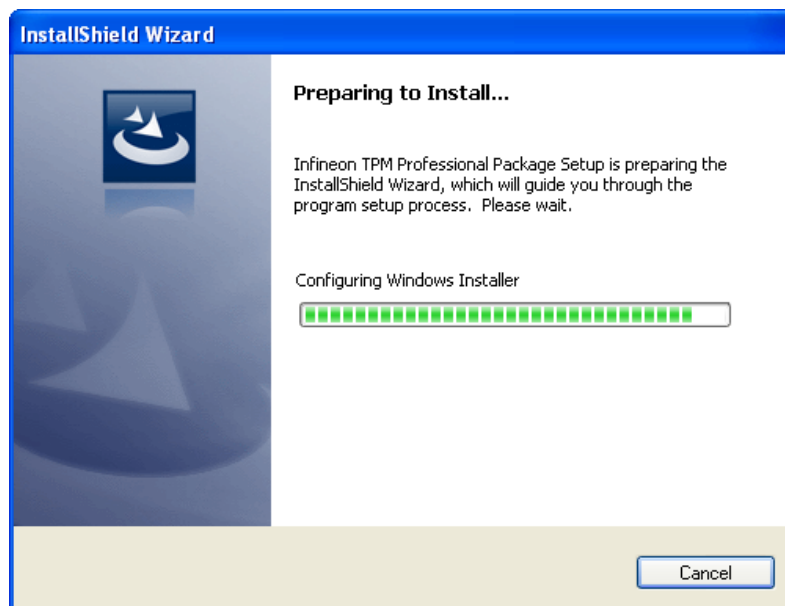

Figure 6-37: TPM Driver Install Screen
Step 8: The program is preparing to install (Figure 6-37).